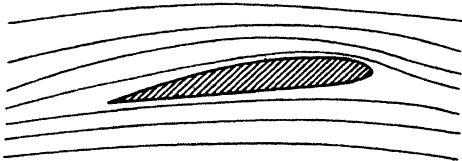
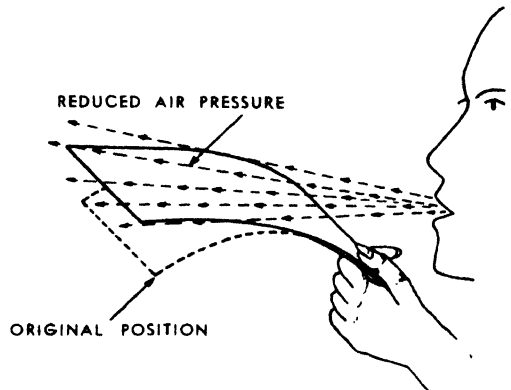

FIG. 202. AIR FOIL.
FIG. 203. THEORY OF LIFT.
2. The lift exerted by an airplane wing is caused by air rushing over the top of the wing at greater speed (thus reducing the pressure there) than it moves by the under side. See Fig. 202. To demonstrate how this produces lift, blow a steady stream of air over a sheet of paper held as shown in Fig. 203.